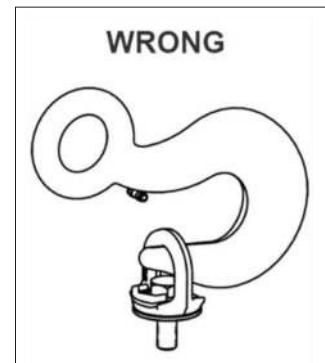

Figure 6
- Attach lifting device ensuring free fit to Lifting Point bail (Figure 6).